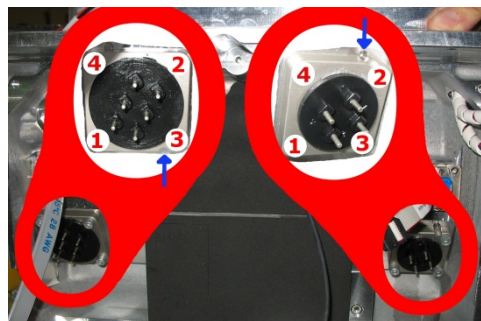

Figure 1 – Torque Sequence
5. Finger-tighten the four (4) new M5x16 screws and then torque to 3 Nm (2.2 ft. lb.). Refer to Figure 1 (Torque Sequence).